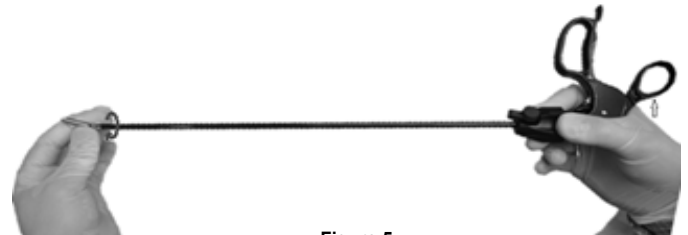

Figure 5
- Step 2:** Place the Single-Use Scissors Insert into the shaft of the Scissors Handle. The Movable Handle will transition from "Hyperextend" Position to the "Active" position once the Insert is installed correctly. Screw the Single-Use Scissors Insert into the shaft of the Scissors Handle (turn clockwise) until fully seated—(See Figure 5)